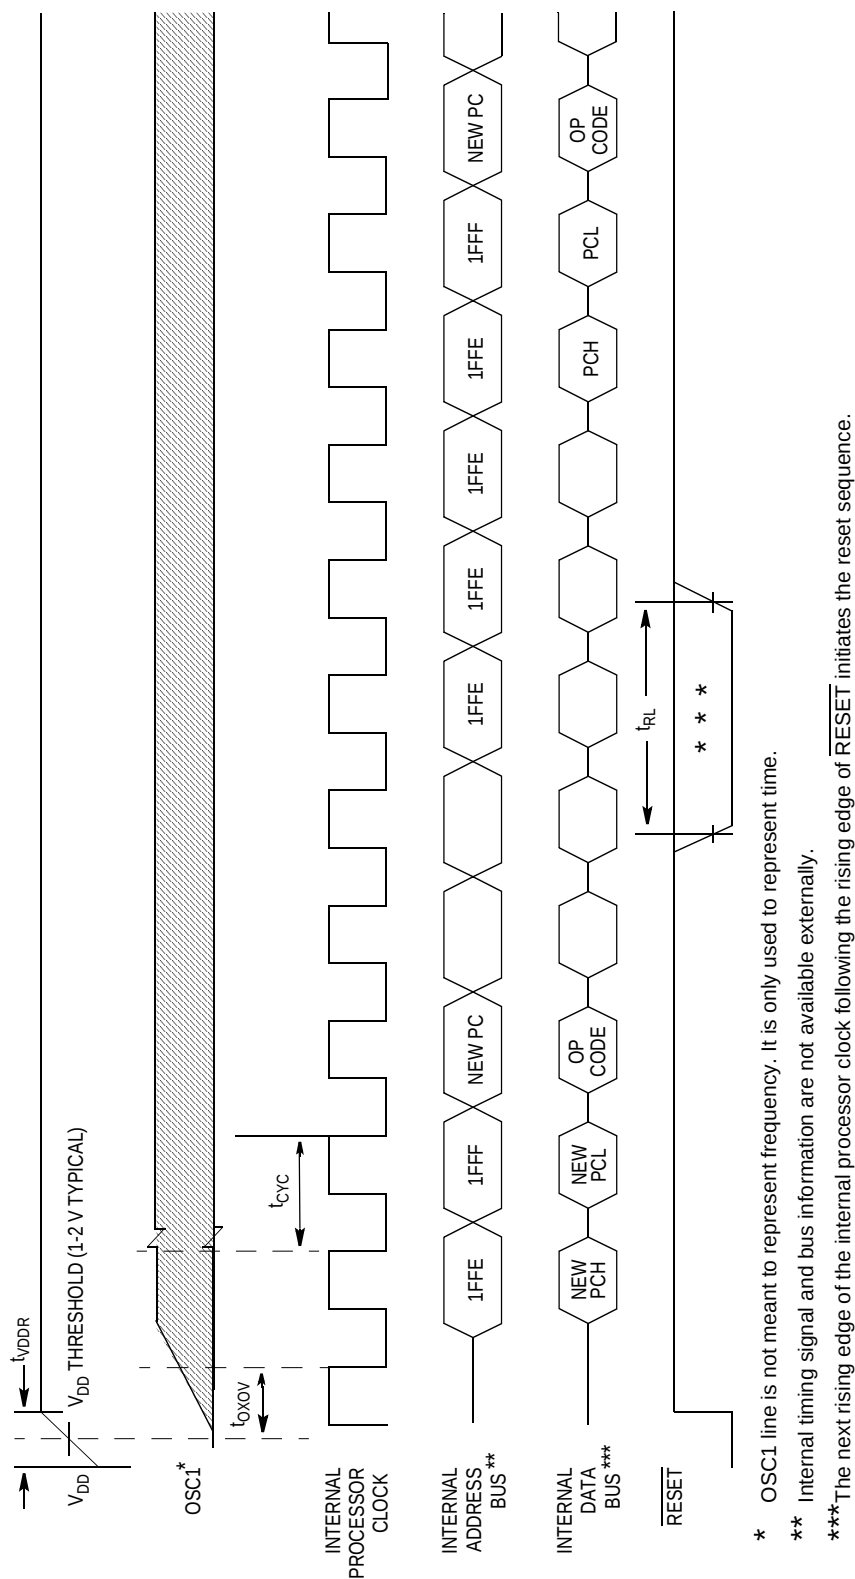

Figure 13-7. Power-On Reset and External Reset Timing Diagram
* Refer to timer resolution data in Figure 13-6 and Figure 13-7.